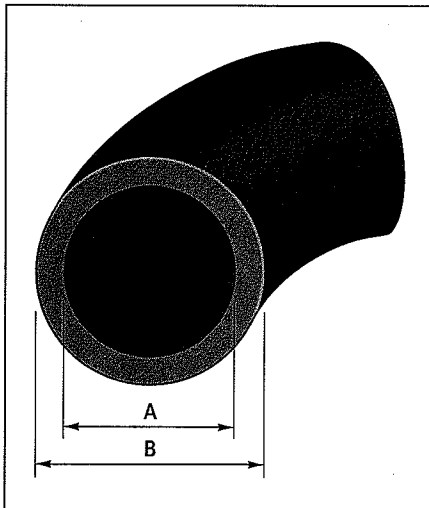

Figure 14-7:
- **The *diameter, color, and length* of the hose:** Most hoses are sold by their *inside* diameter (see Figure 14-7), so you may have to disconnect one end of the hose, measure its inside diameter, and reconnect it in order to drive to the store.